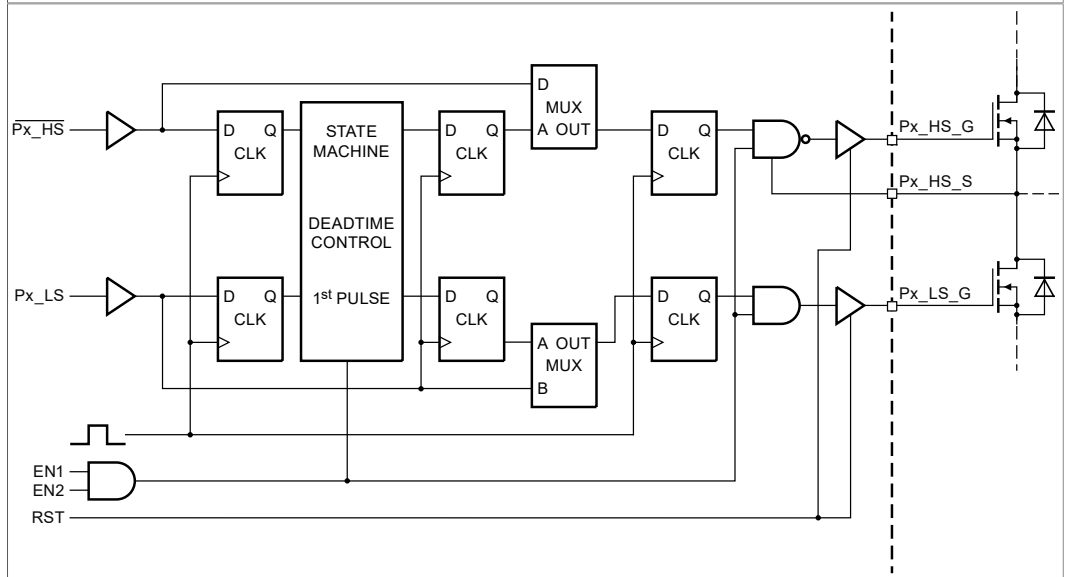
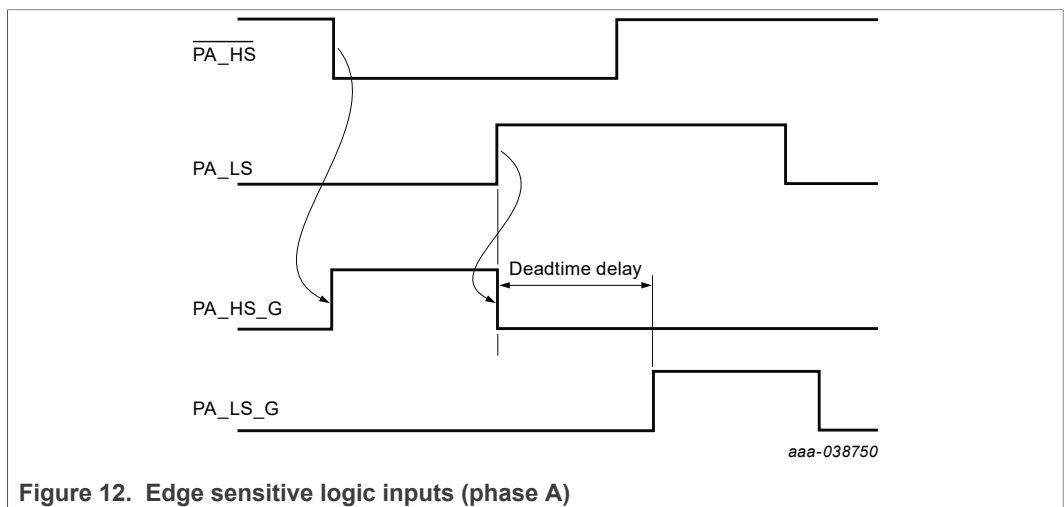

Figure 5. Deadtime control delays
Figure 12. Edge sensitive logic inputs (phase A)
- [6] These delays include all logic delays except deadtime. All internal logic is synchronous with the internal clock. The total delay includes one clock period for state machine decision block, an additional clock period for FULLON mux logic, input synchronization time and output driver propagation delay. Subtract one clock period for operation in FULLON mode which bypasses the state machine decision block. Synchronization time accounts for up to one clock period of variation. See Figure 5.
The  $\overline{P_x\_HS}$  and  $P_x\_LS$  logic inputs are edge sensitive. This means the leading edge on an input causes the complementary output to immediately turn off and the selected one to turn on after the deadtime delay as illustrated in Figure 12. The deadtime delay timer always starts at the time a FET is commanded off and prevents the complementary FET from being commanded on until after the deadtime has elapsed. Commands to turn on the complementary FET after the deadtime has elapsed are executed immediately without any further delay. See Figure 5 and Figure 12.